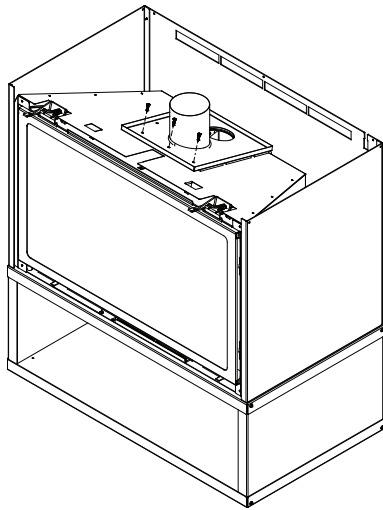

Figure 6.15
15. Inspect the slide plate gasket to make sure there are no tears in the gasket. Install the adapter weldment assembly to the top of the insert using the (3) #8 X 3/4" screws provided with the ADP-CK30 adapter kit. See Figure 6.15.